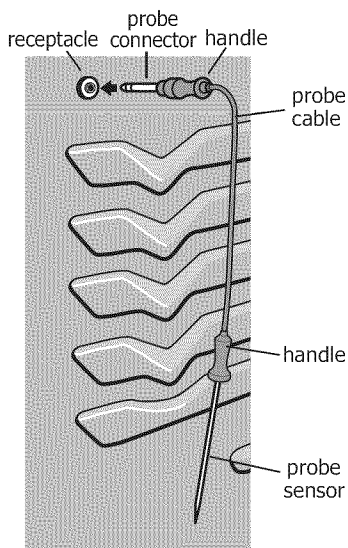

Figure 12: Using the probe
Do not use kitchen utensils to pull on the probe cable or handles. Always insert and remove the probe using the provided handles, as shown in Figure 12, and always use a pot holder to protect hands from possible burns.
Handle the meat probe carefully when inserting and removing from food or probe receptacle. Do not use kitchen utensils, such as tongs, to pull on meat probe cable when inserting or removing from food or receptacle. Use the provided handle, as shown in Figure 12. To avoid possibility of burns after cooking, carefully unplug meat probe using a pot holder to protect hands.
2. Plug the connector end of the probe all the way into the probe receptacle while the oven is still cool. The receptacle is located on the upper left front oven cavity wall (Figure 12).